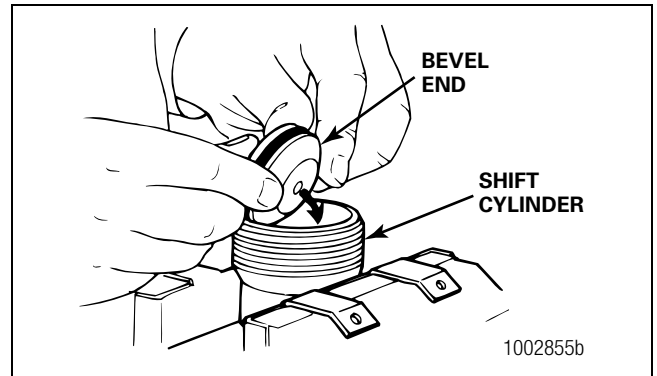

Figure 6.20
6. Install the piston and O-ring assembly into the shift cylinder, bevel end first. Push on the piston until it is against the bottom of the cylinder. Figure 6.20.